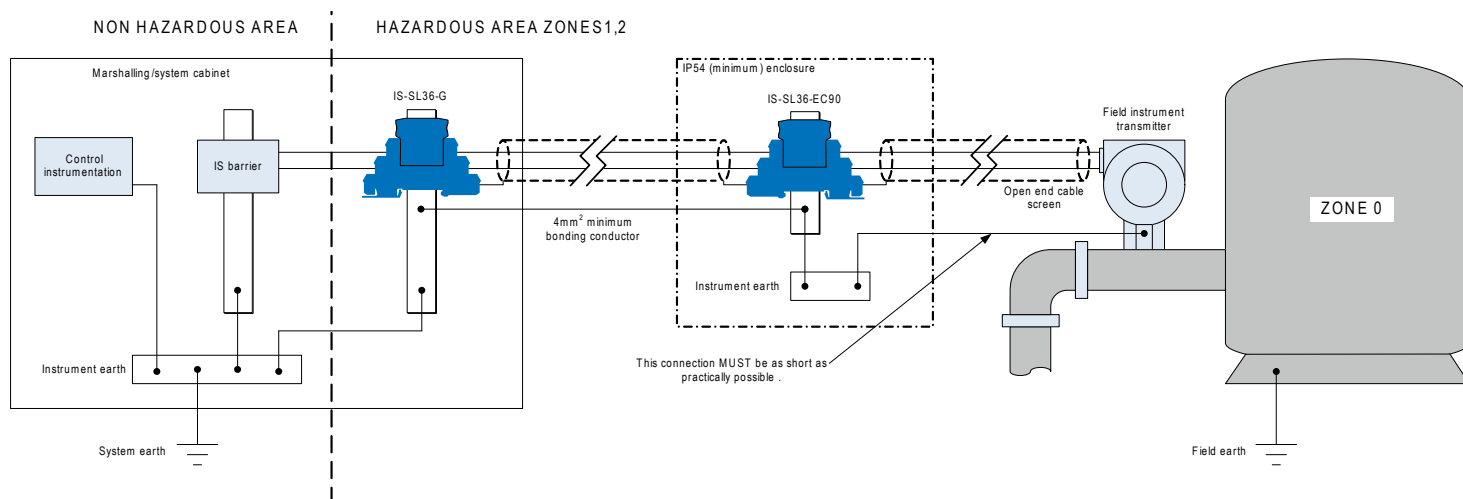

Figure 7: Typical hazardous area installation where field instrument body is earthed through pipework.
- 5.2** Figure 7 shows a typical hazardous area installation where the body of the field instrument is earthed through the metallic pipework. In this instance it is important to earth the Novaris slimline signal line protector to the instrument body. This connection **MUST** be as short as practically possible.